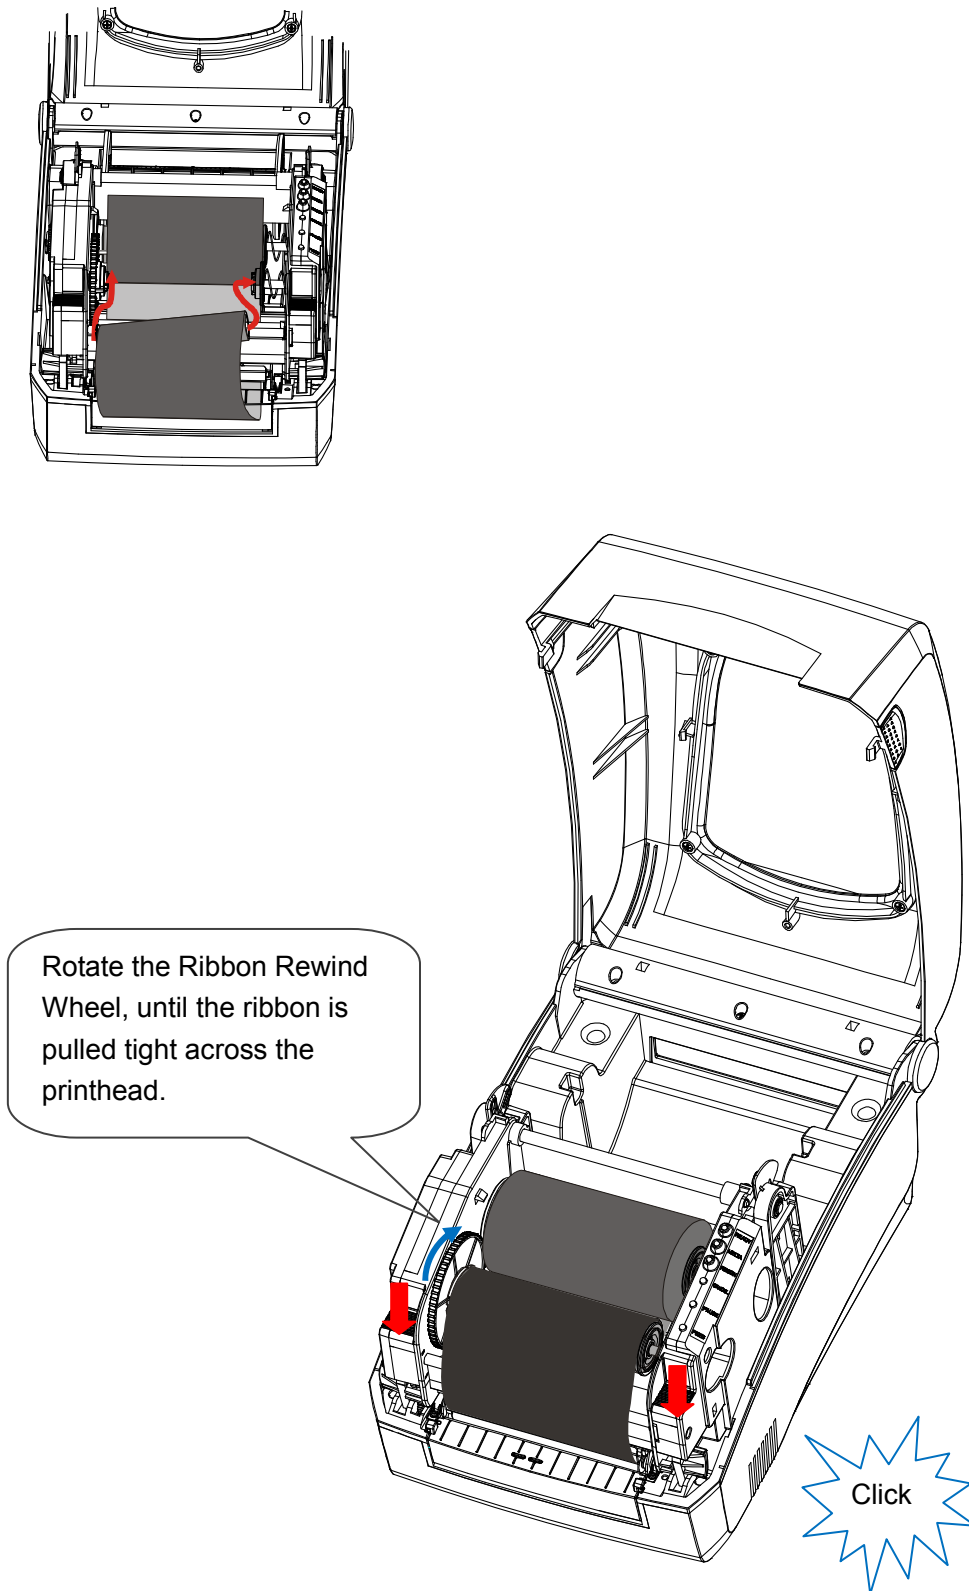

Figure 5-6
9. Load the ribbon take up core into the Ribbon rewind Compartment. (see Figure 5-6)